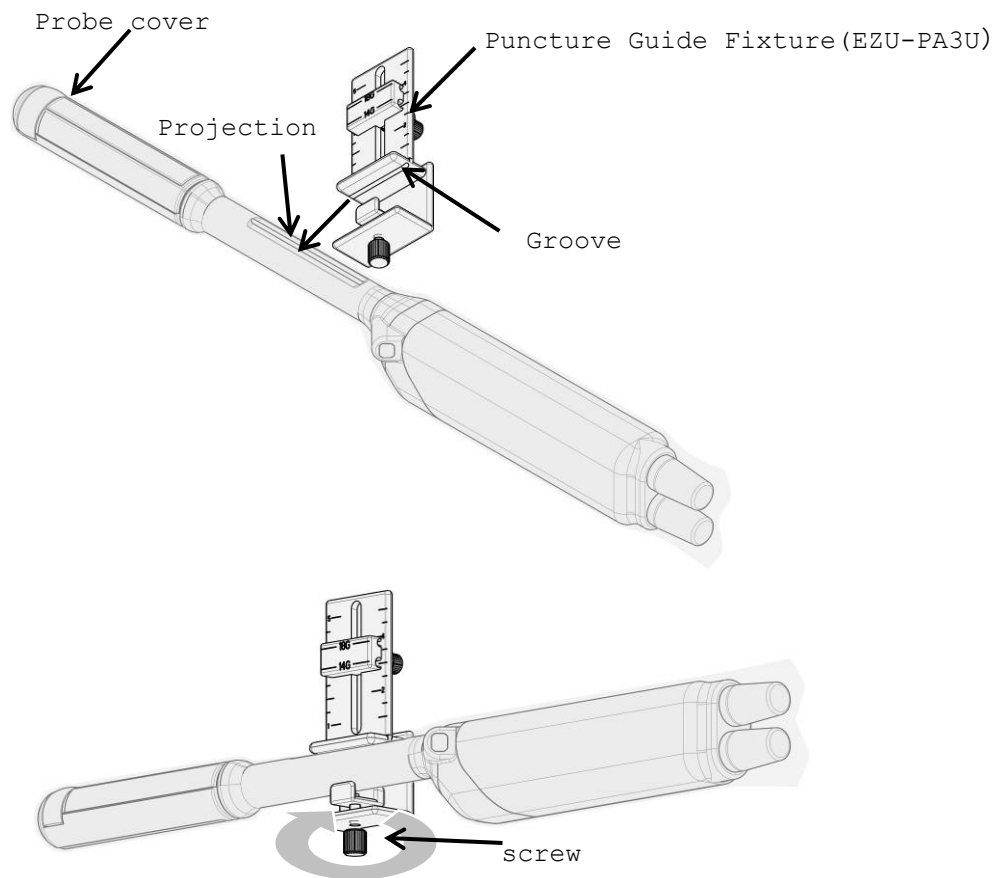

Fig4. How to attach the EZU-PA3U
- 2) Fit the groove of the Puncture Guide Fixture to the projection on the probe. (See Fig.4.)